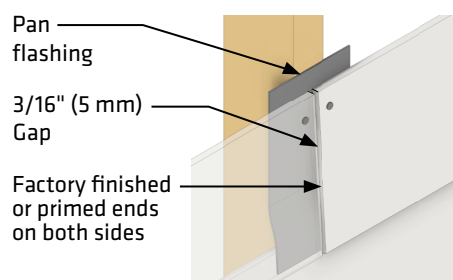

Figure 4d
- If open butt joint (no caulking or moulding) for factory finished siding is selected**, a minimum 4" wide pan flashing is required, factory finished ends must be maintained on both sides of butt joint. (Figure 4d and 6c)
- If open butt joint (no caulking or moulding) for primed siding is selected**, a minimum 4" wide pan flashing is required, factory primed ends must be maintained on both sides of butt joint, in addition the factory primed ends must be coated with an additional layer of high-quality water based primer per coating manufacturers requirements prior to installation of siding. (Figure 4d and 6c)